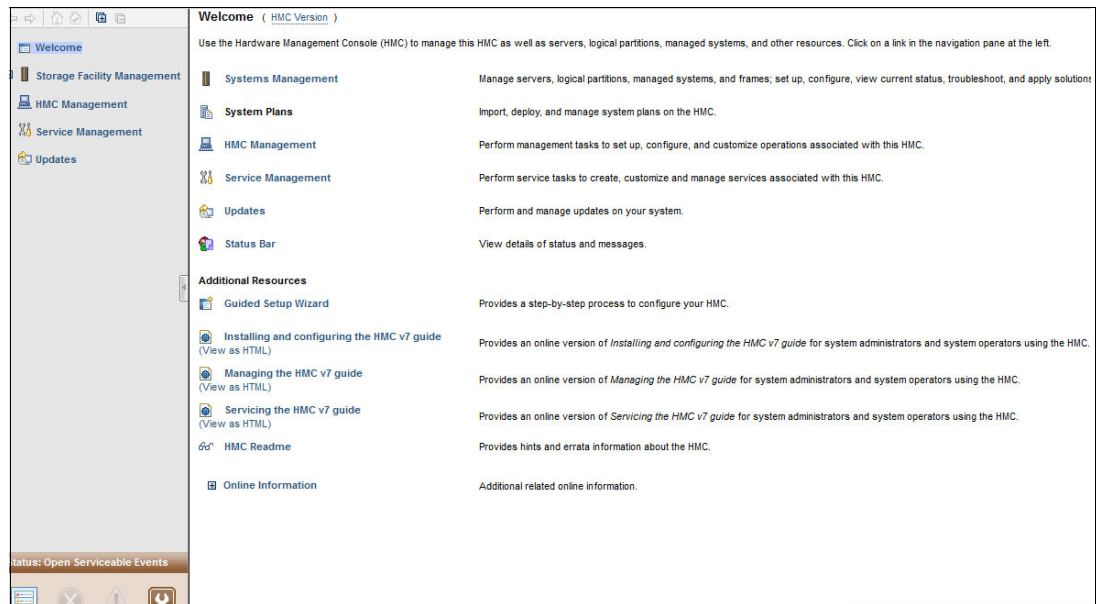

Figure 8-9 Web UI Welcome window
1. Start and log in to the Web UI. For more information, see 8.2.6 Web-based User Interface on page 226. The MC Welcome window opens, as shown in Figure 8-9.
1. Log into the Web UI. For more information, see 8.2.6 Web-based User Interface on page 226. The MC Welcome window opens, as shown in Figure 8-9 on page 231.